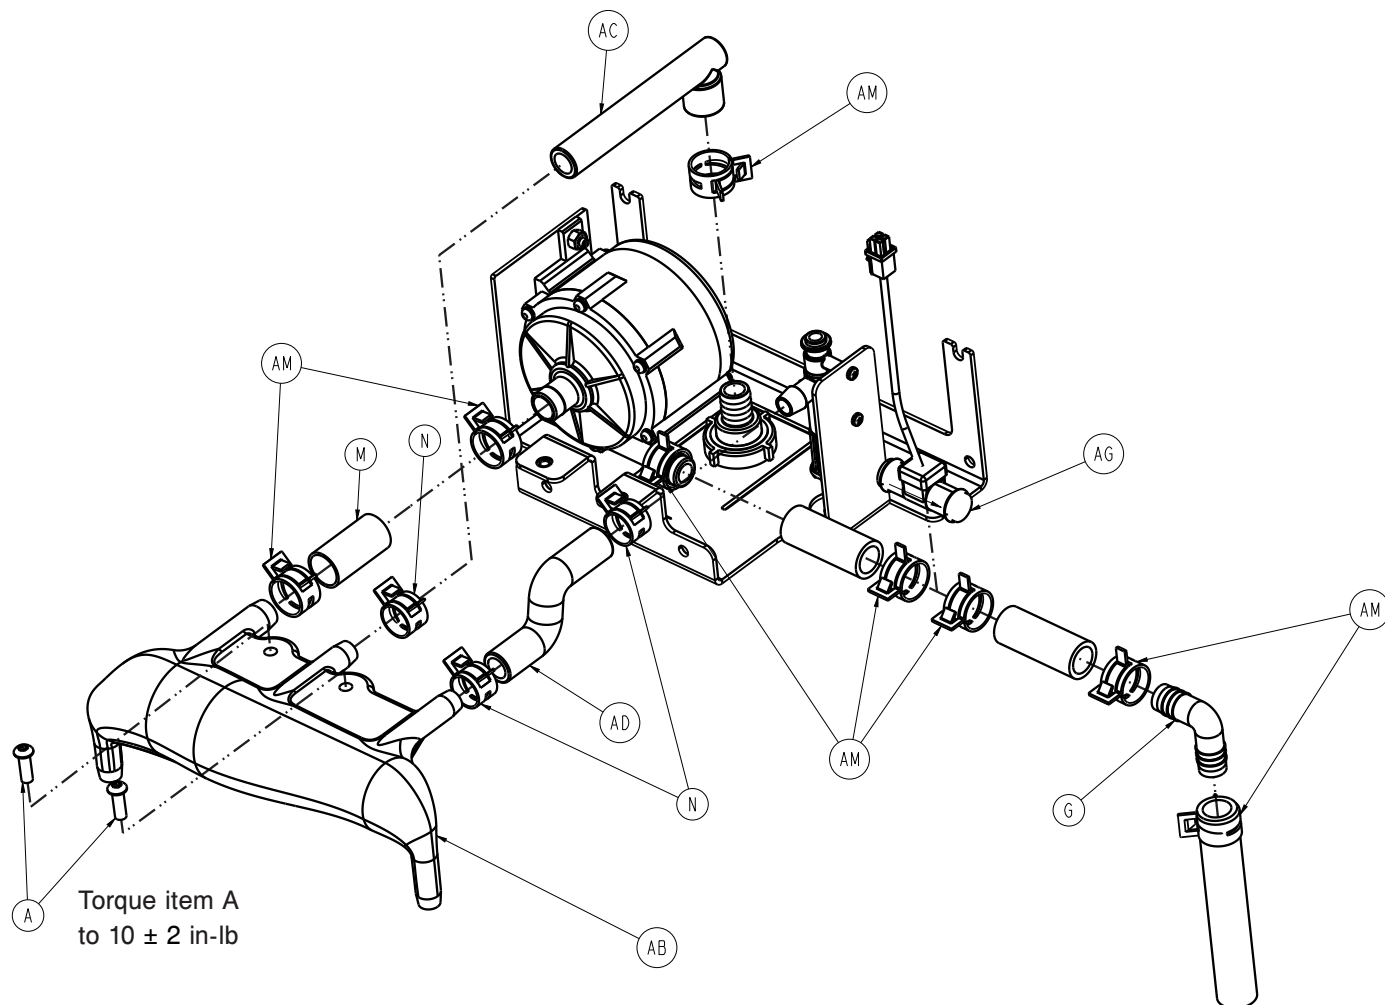

Figure 42 – Hose clamps
11. Using needle nose pliers, pinch the hose clamps (AM) and remove the tubing off of the system flow sensor (Figure 42).